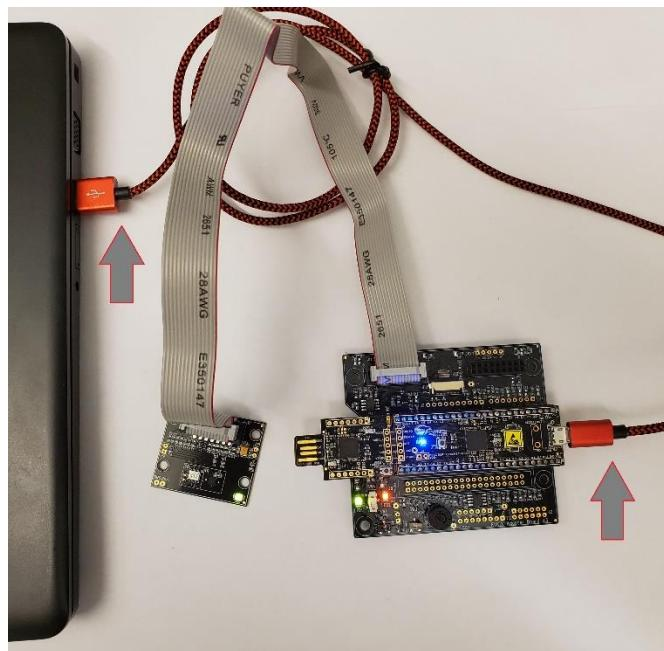

Figure 13. CY8CKIT-059 connected to PC (connection to the evaluation board is optional in this step)
2. Connect the Cypress CY8CKIT-059 Prototypic Kit to a computer using the provided microUSB cable (Figure 13).
- ✓ Connect the RoKiX Development kit to the PC with the provided micro-USB cable (*Figure 13*).